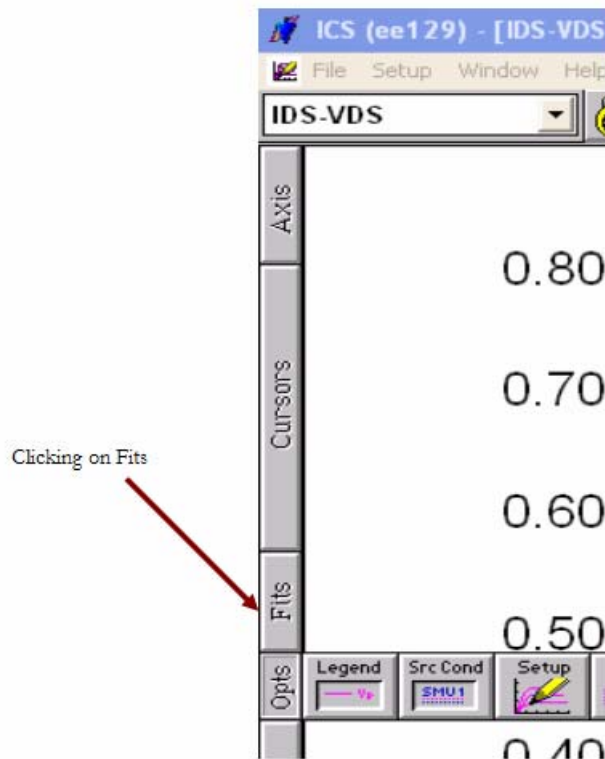

Figure 40: Fits button on left side of ICS window
12. To obtain a tangent line on ID vs. VG curve, click on Fits on the left side of the graph, see Figure 40.